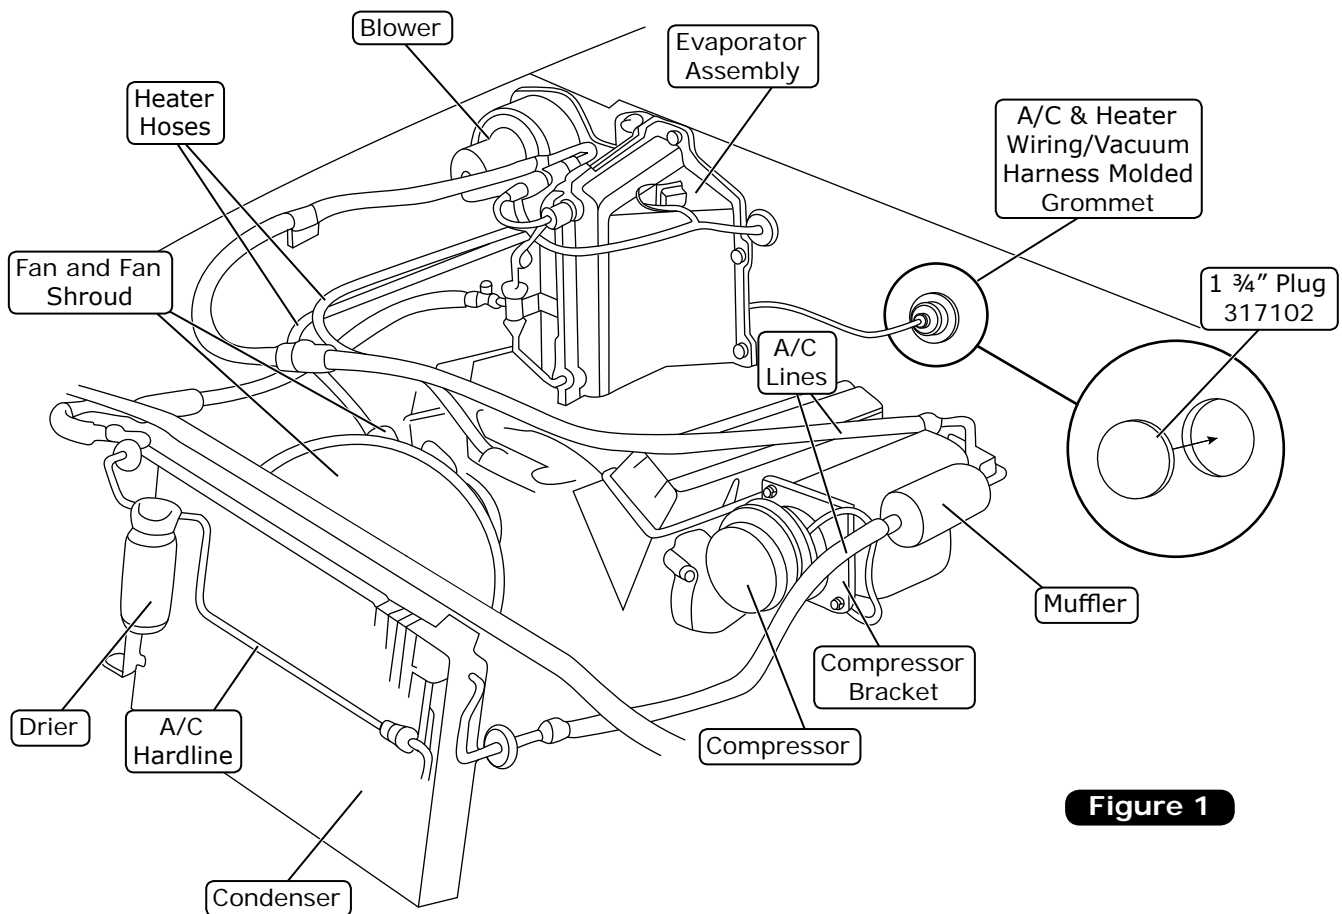

Figure 1
5. Remove the condenser and drier (discard) (See Figure 1, below).
6. Remove the A/C lines from the compressor to the evaporator (discard) (See Figure 1, below).
7. Remove the compressor and bracket (discard) (See Figure 1, below).
9. Remove the heater hoses, A/C hoses, hardlines and muffler (discard) (See Figure 1, below).
10. Remove the A/C and heater wiring/vacuum harness molded grommet (See Figure 1, below).
11. Install the supplied 1 3/4" plug in the firewall as shown in Figure 1, below.